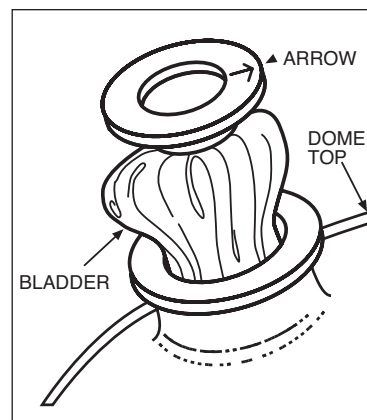

Figure 6
19. Arrow on bladder flange must be pointing to top of tank (Figure 6).